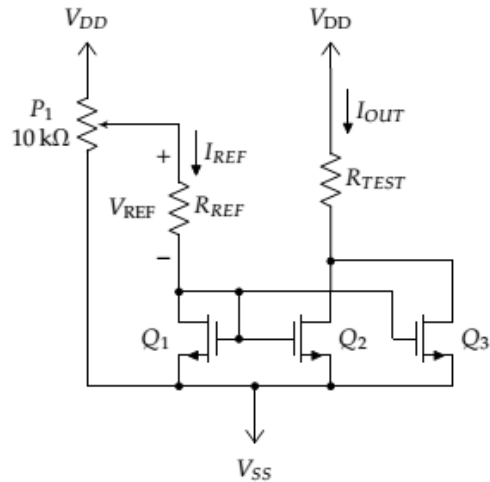

Figure 5.10: NMOS current mirror with test load.
2. Construct^a the current mirror in figure 5.10 using both Q_2 and Q_3 to create a current doubler.